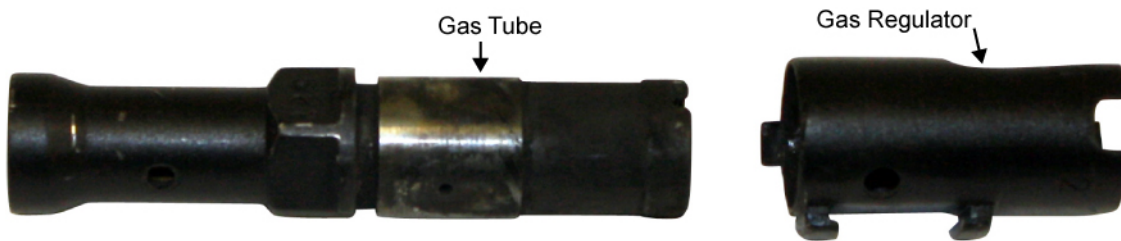

Figure 28. Gas Tube and Gas Regulator.
11. Install the gas regulator on the gas tube. Refer to Figure 28.